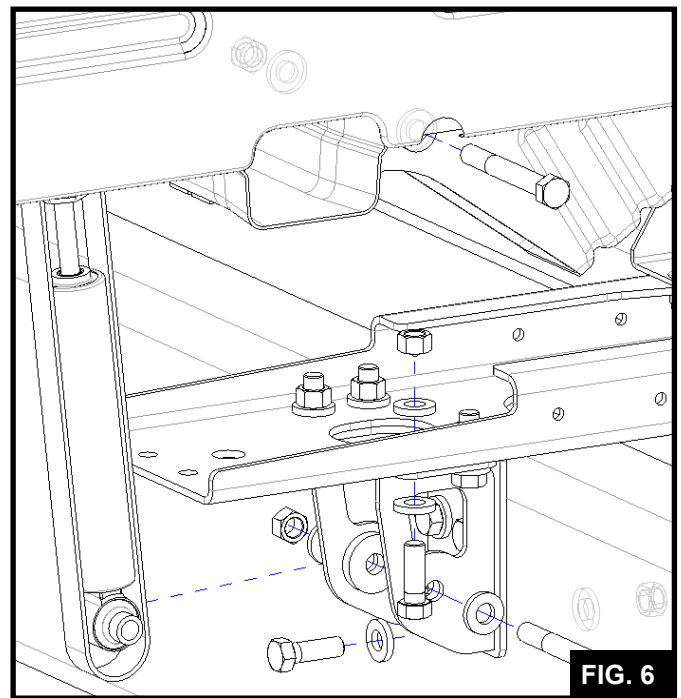

FIG. 6
Mount the new drivers side frame bracket to the frame using the (4) 1/2 X 1 1/2 bolts, (4) nuts and (4) washers provided. (FIG.6).
Connect the new crossmember assembly to the frame brackets using the (8) 1/2 X 1 1/2 bolts, (8) nuts and (8) washers provided (FIG.6). (4 per side)
Using the (2) black straps provided, slip one around the length of each new ROI shock (FIG.6).
(FIG.6).